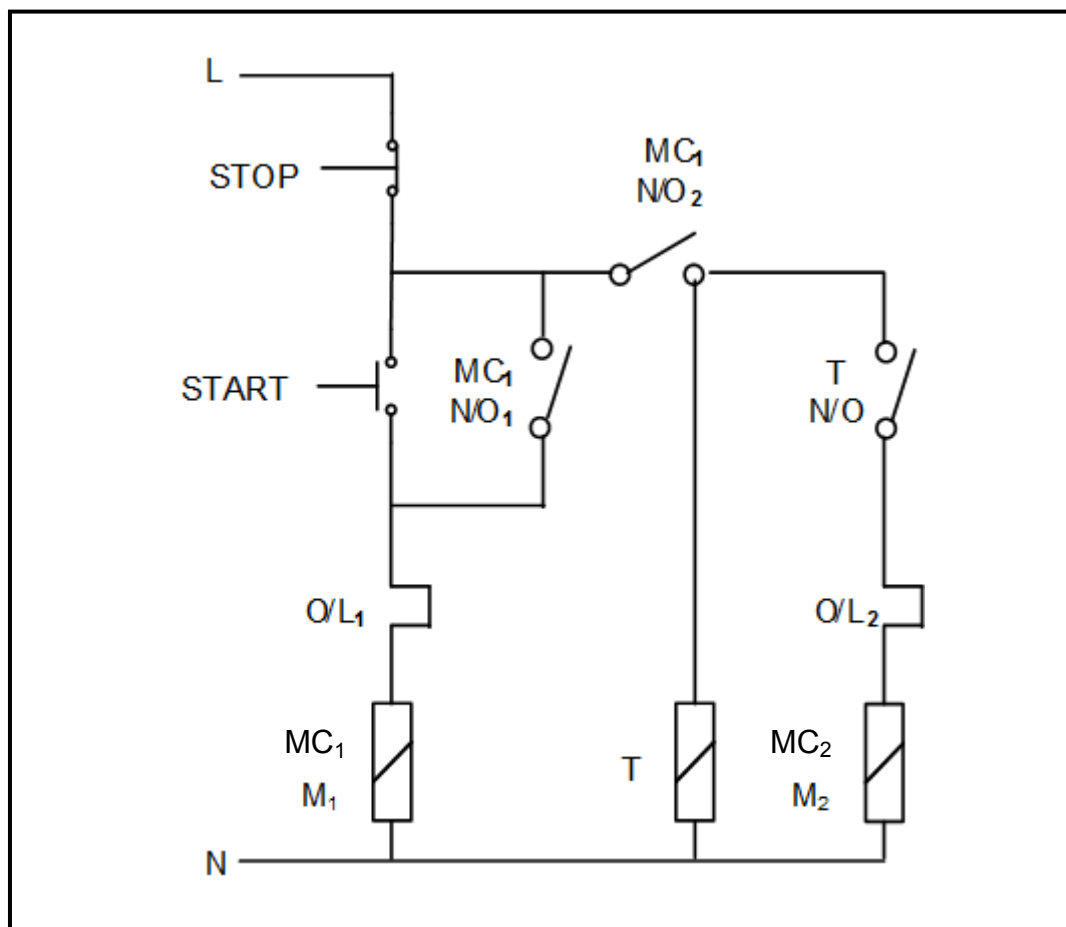

FIGURE 4.6: CONTROL CIRCUIT OF A SEQUENCE STARTER
4.6 FIGURE 4.6 below represents the control circuit of a sequence starter.
- 4.6.1 Name ONE practical situation where two motors may be started using the method in FIGURE 4.6. (1)